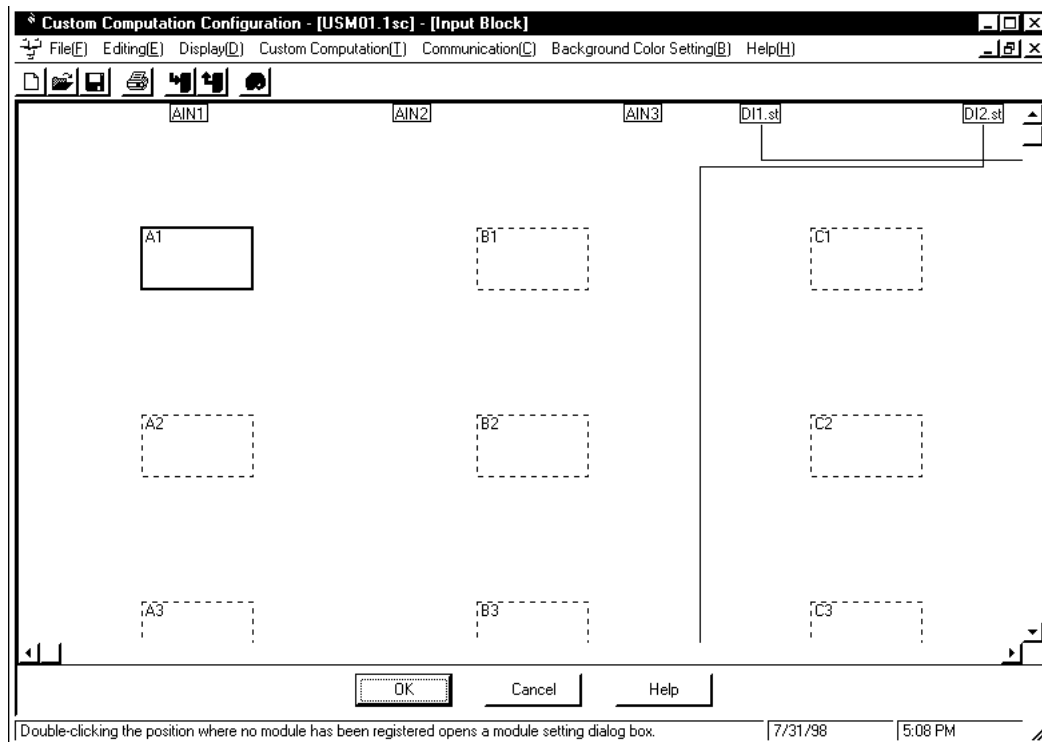

Figure 12.4.2 [Input Block] Dialog Box
- ① In the [Custom Computation Configuration Menu] dialog box (Figure 12.0.2), click <Input Block>. The [Input Block] dialog box (Figure 12.4.2) appears.